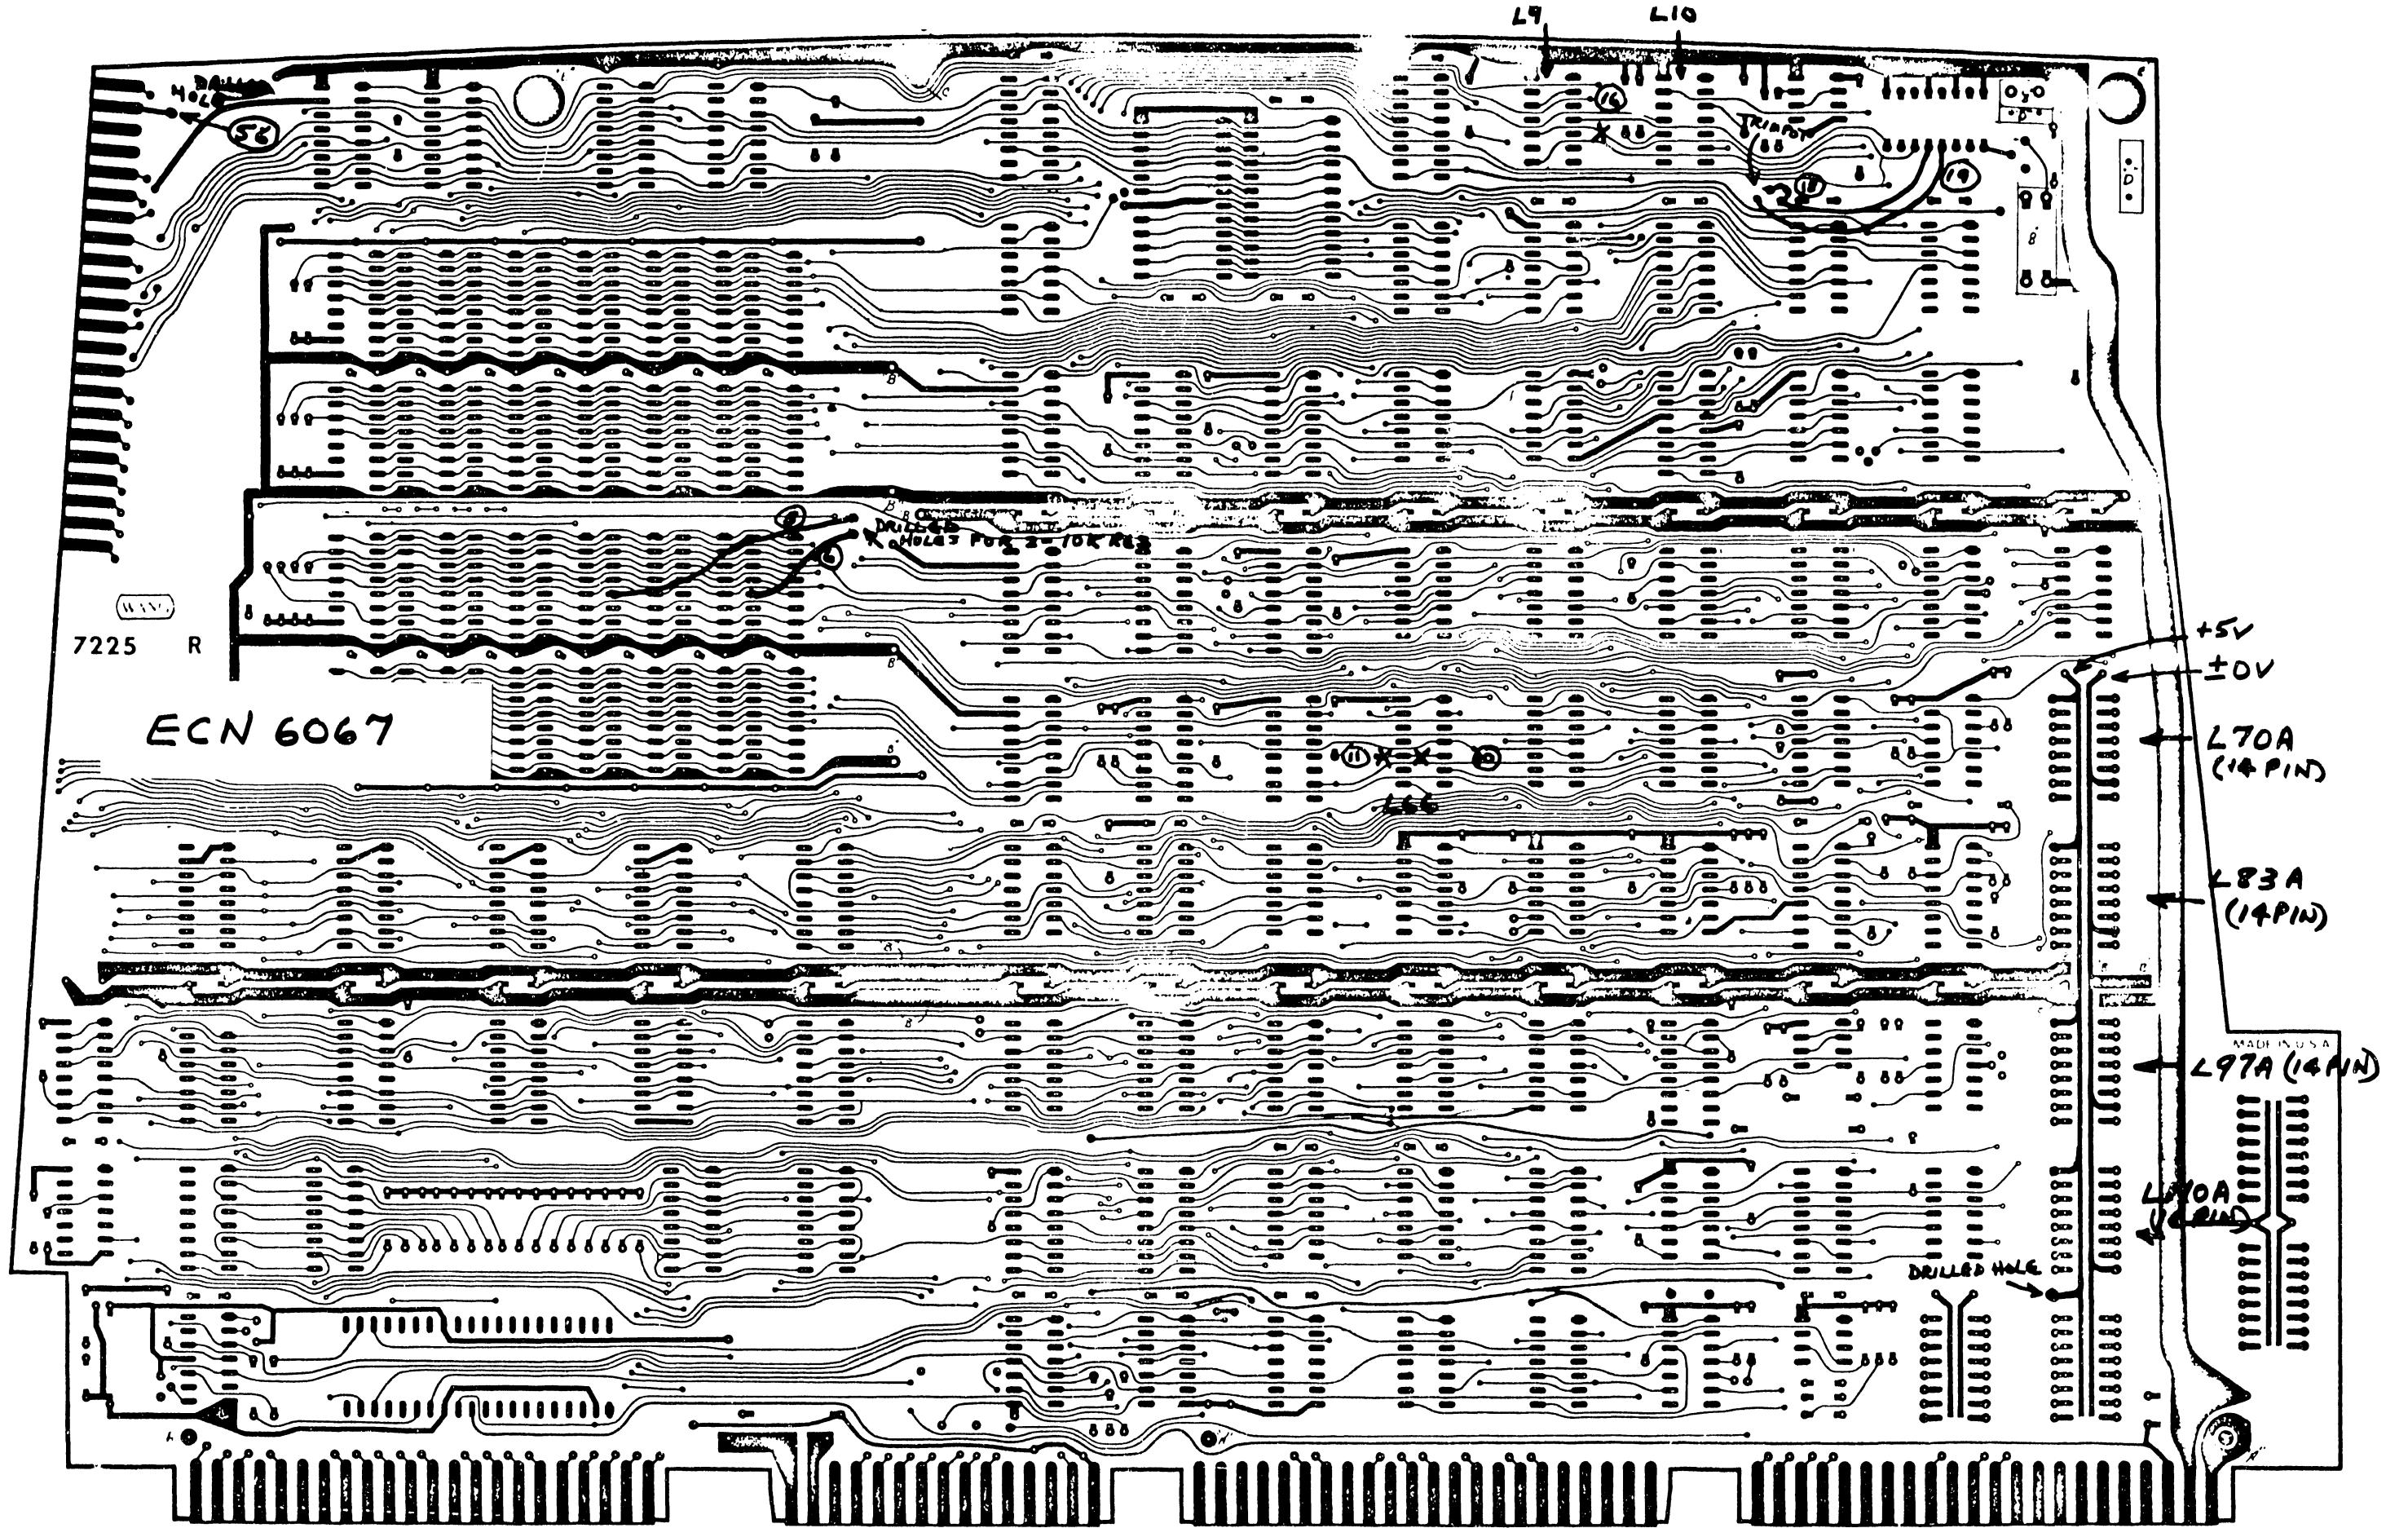

FIGURE 5-11
4) Thread the pigtails on the other end of the resistors thru the drilled holes, bend and cut surplus pigtail (non-comp. side), Figure 5-11.